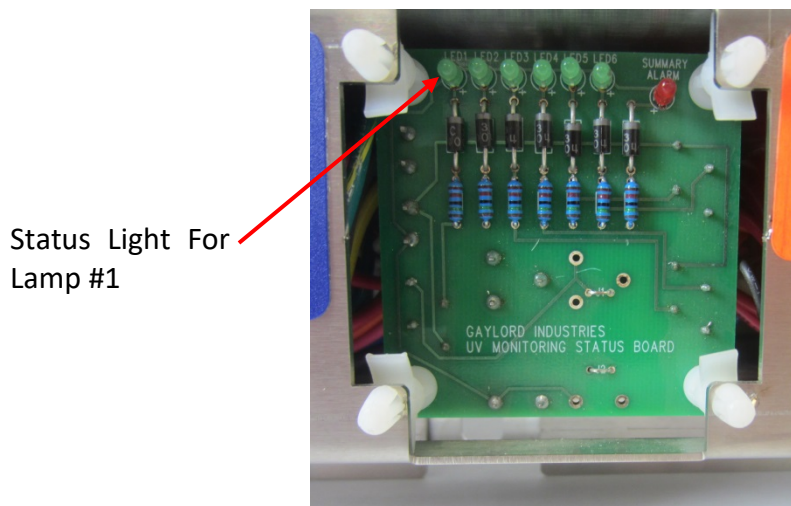
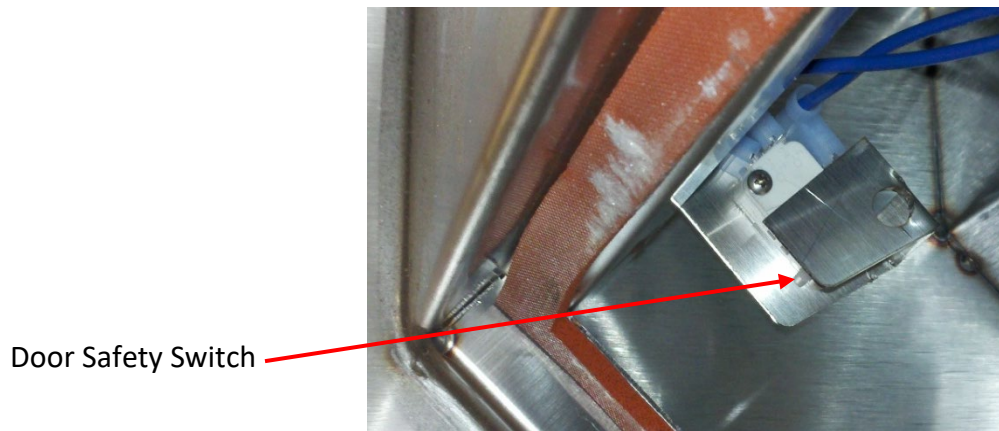

Figure 6-8-1
Figure 6-12-1
1. With the exhaust fan on, open the UV Module Access Door. Push and hold in the Door Safety Switch (Refer to Figure 6-12-1) and look at the UV Monitoring Status Board (Refer to Figure 6-8-1). There is one green light for each of the six Lamps and the light on the left is for Lamp #1 and on the right is for Lamp #6. A green light off indicates that specific Lamp as failed and it must be replaced.
25. Push and hold in the Door Safety Switch and look at the UV Monitoring Status Board (Refer to Figure 6-8-1). There is one green light for each of the six Lamps and the light on the left is for Lamp #1 and on the right is for Lamp #6. If all the green lights are on the Lamps are operating correctly and the test is complete. If one or more lights are off, the red light will be on indicating that the wiring to that specific Lamp has a problem, such as a bad connection etc. **Caution: Always turn off the power to the Command Center and the circuit that supplies power to the UV Lamps before troubleshooting.** Troubleshoot and correct the problem and test again until all six green lights are on.